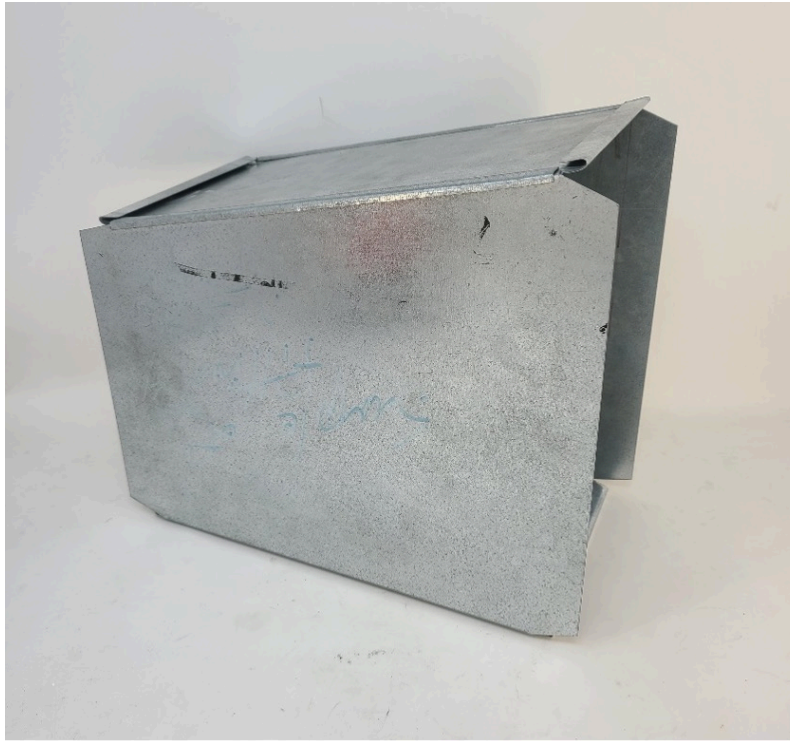

Figure 10. Sheet metal rectangular reducer
For this installation you could use a reducing transition fitting (Figure 10) at the grille connection, or an oversized duct, with the same size as the grille opening.
- Figure 10. “Sheet metal rectangular reducer” by Camosun College is licensed under a CC BY-NC-SA licence (<https://creativecommons.org/licenses/by-nc-sa/4.0/deed.en>).